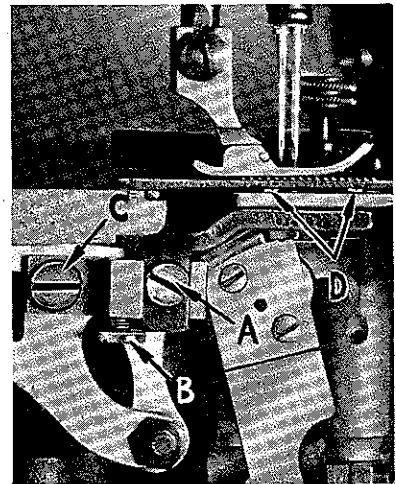

Fig. 7
The feed dog holder attaching screw (A, Fig. 7) should be loosened slightly, and regulating screw (B) should be turned either clockwise to raise the feed dog, or counterclockwise to lower it. Make sure that the bottom of the shank of the feed dog holder rests against the head of the regulating screw.